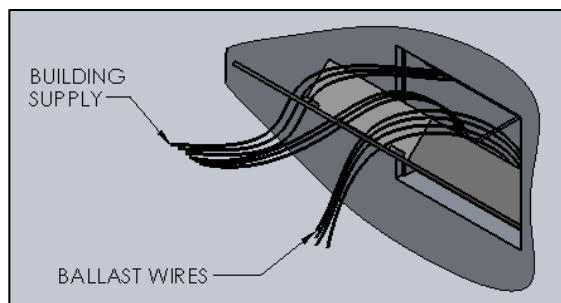

FIG. 15- DETAIL SHOWING BUILDING SUPPLY AND DRIVER WIRE CONNECTION
10. Make BUILDING SUPPLY wire connections and tuck them into the top section of the box leaving the DRIVER WIRES out as shown in FIG. 15.